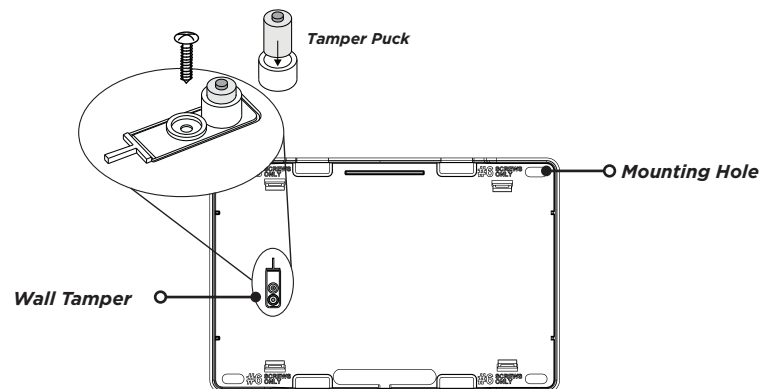

Figure 2: Inside of the 1100X Housing
2. Use the included #6 screws to secure the 1100X to the wall. See Figure 2 for mounting hole locations.
3. Use one of the provided screws to secure the wall tamper. See Figure 2 for tamper location.
2. Connect the other end of the wires to the XBUS on the panel. See Figure 2.